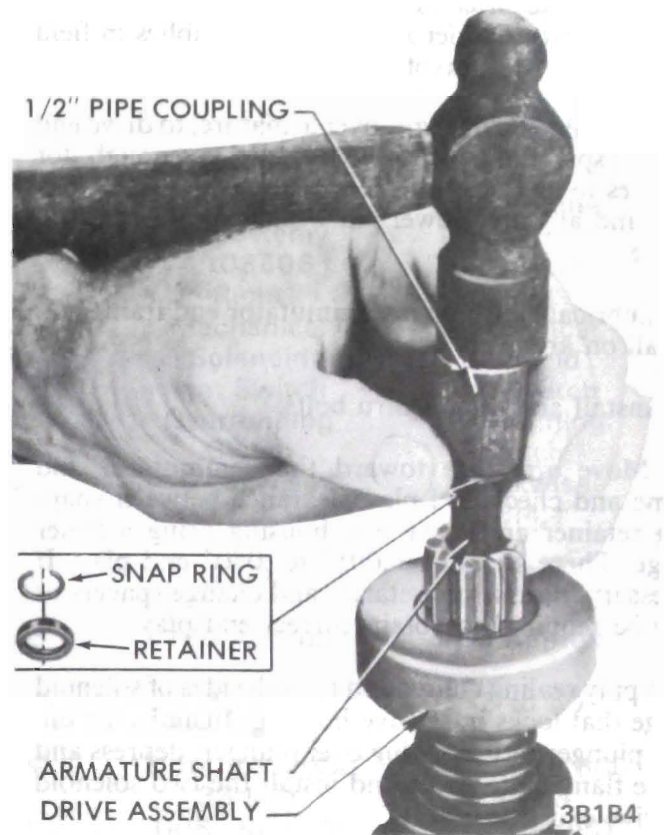

Figure 1B-3 Removing Snap Ring and Retainer
4. Slide thrust collar onto shaft, move snap-ring retainer up to snap-ring and using pliers on opposite sides of the shaft, squeeze retainer and thrust collar until the retainer is forced over the snap-ring. See Figure 1B-4.